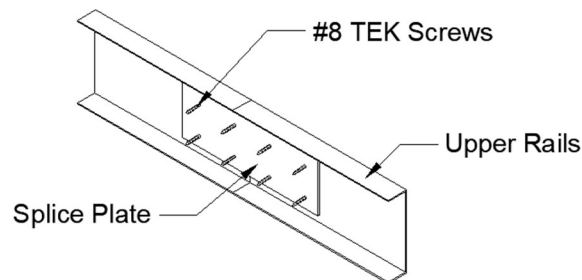

Figure 3.2
- B. Splice the upper rail sections together using the splice plate provided as shown in figure 3.2. Plate the splice plate on the inside of the top rail. Secure in place with eight (8) 1/4" x 1" self-drilling screws per splice, drilled from the outside in.